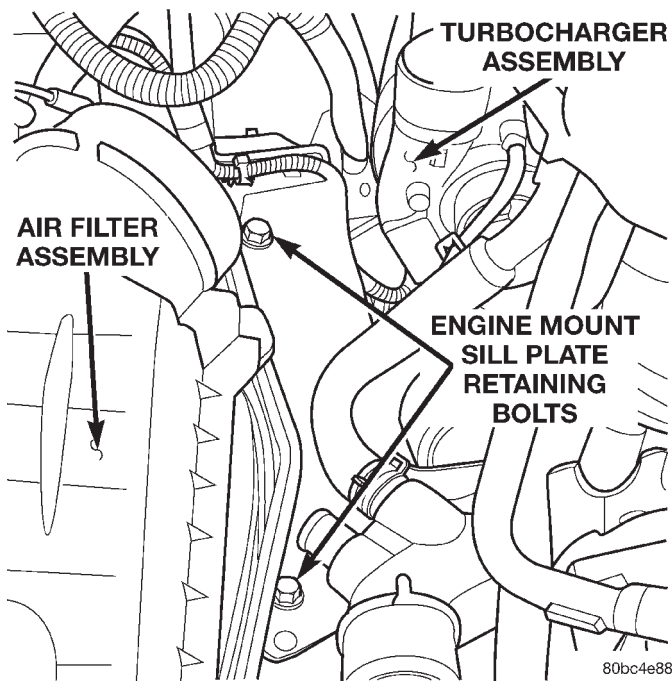

Fig. 21 Engine Mount Sill Plate Bolts - Rightside
(77) Remove the right engine mount sill plate retaining bolts (Fig. 21).